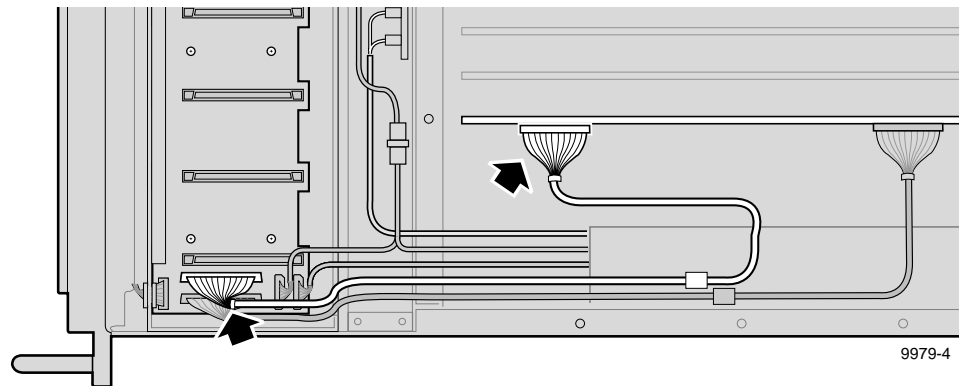

Figure 4. 2-channel PDR200 SCSI Cable Installation
2. Connect one end of the SCSI cable to the unused connector on the SCSI backplane. See Figure 4.
4. Connect the free end of the cable to the SCSI header connector on the rear of the Master EDR board (Figure 4).